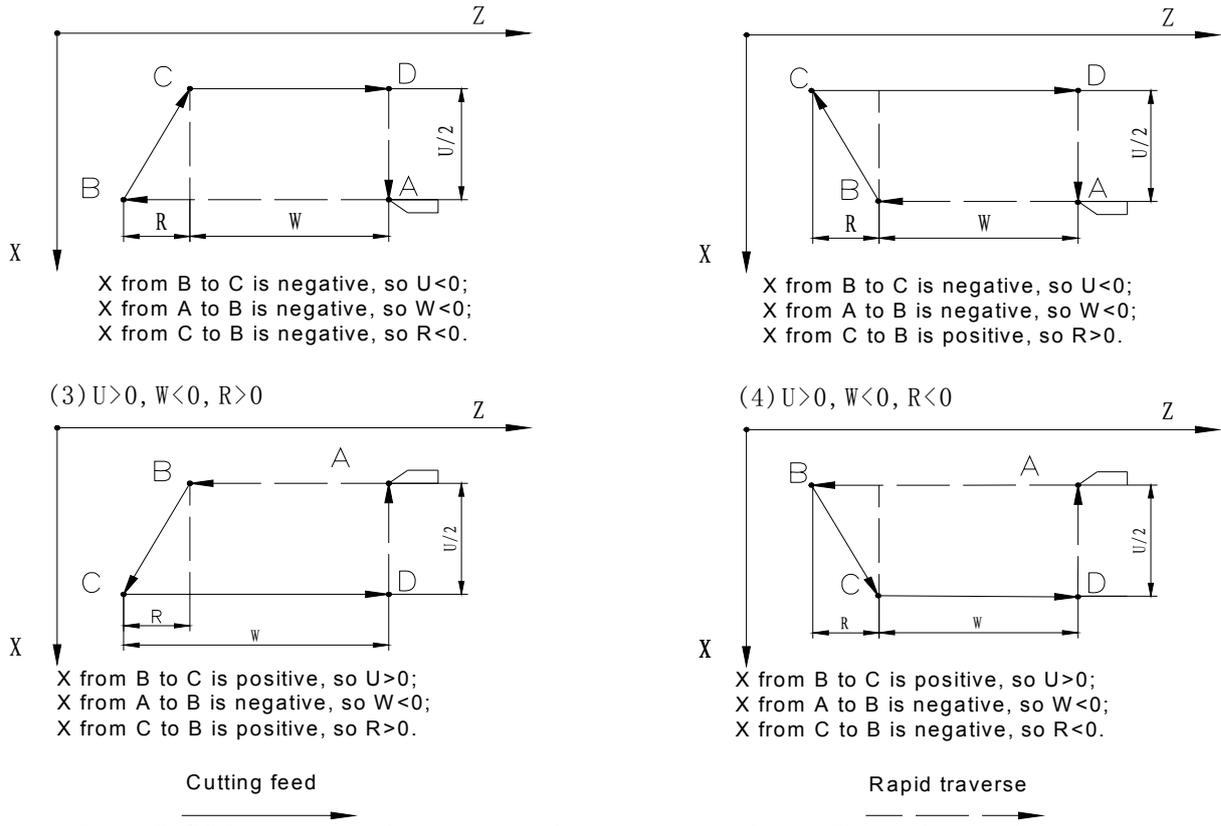

Fig. 19 G94 cycle, relationship between signs of U,W,R and tool path
**Example 1:** Fig. 19 a, the first feed= 5 mm, the second feed= 1.5 mm, F=80 mm/min, and its programming as follows:
**Example 2:** Fig. 19 b, feed R=-5 mm once, feedrate=100 mm/min and its programming as follows:
**Note 2:** The computation method of max. taper R( as Fig. 19 b):